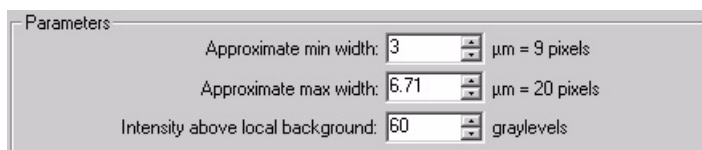

Figure 7-5 Changing the Approximate max width value
6. Type or select the value in microns in the **Approximate max width** field of the **Configure Settings** dialog box. Figure 7-5 shows the new Approximate max width value.